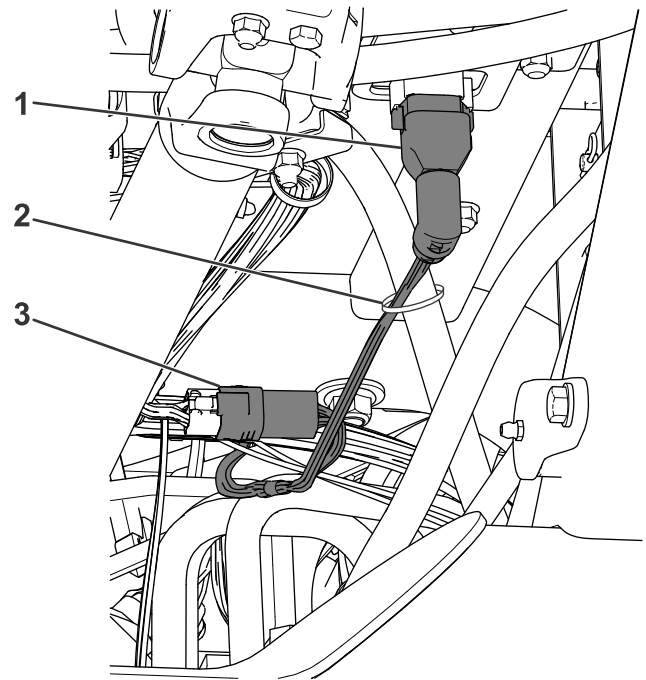

Figure 5
1. Plug the 90° connector into the bottom of the sensor module (Figure 5).
2. Route the wire harness back and plug the second connector into the machine wire harness (Figure 5).
4. Secure the harness to the hydraulic tube with a cable tie as shown in Figure 5.